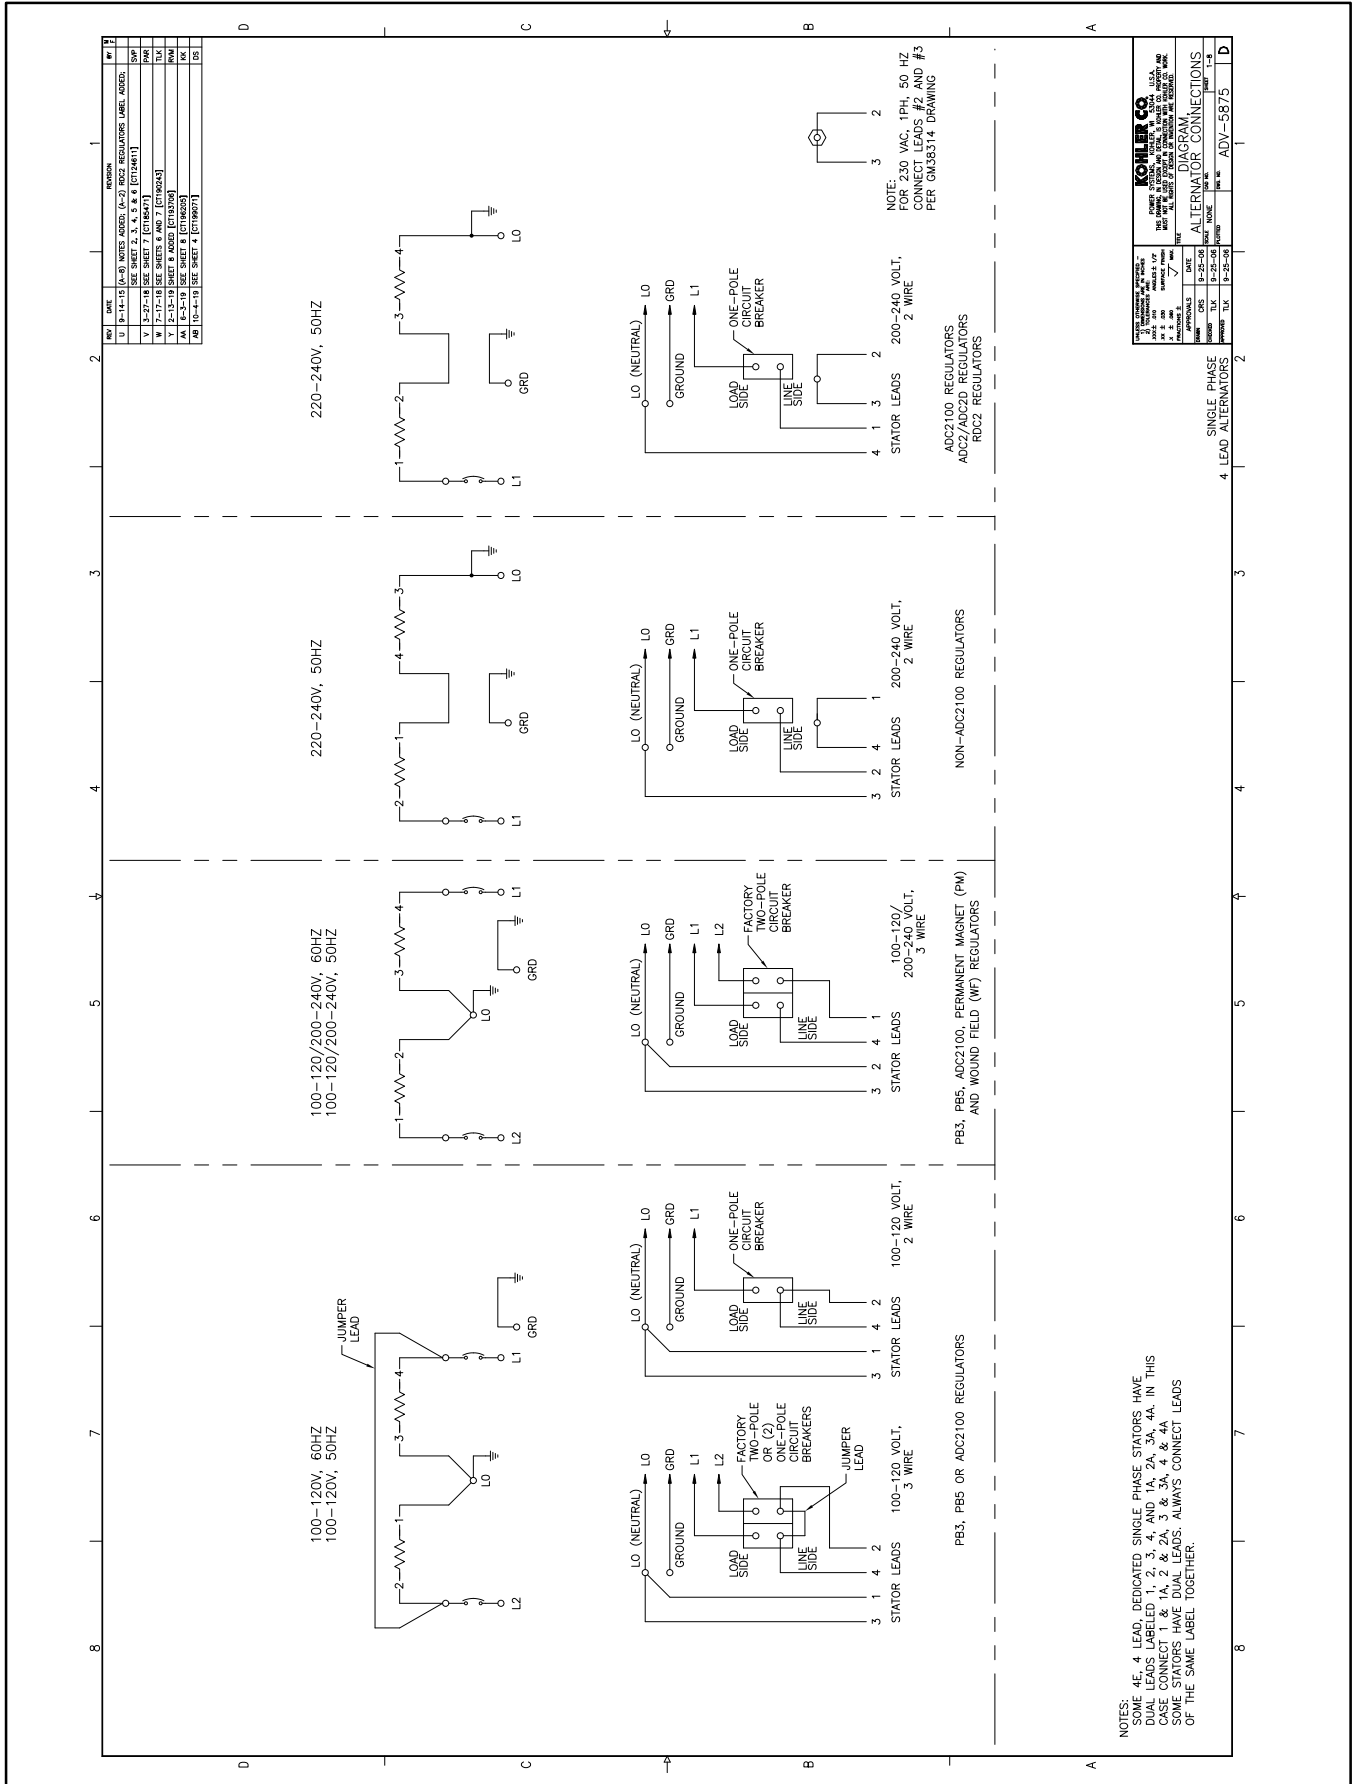
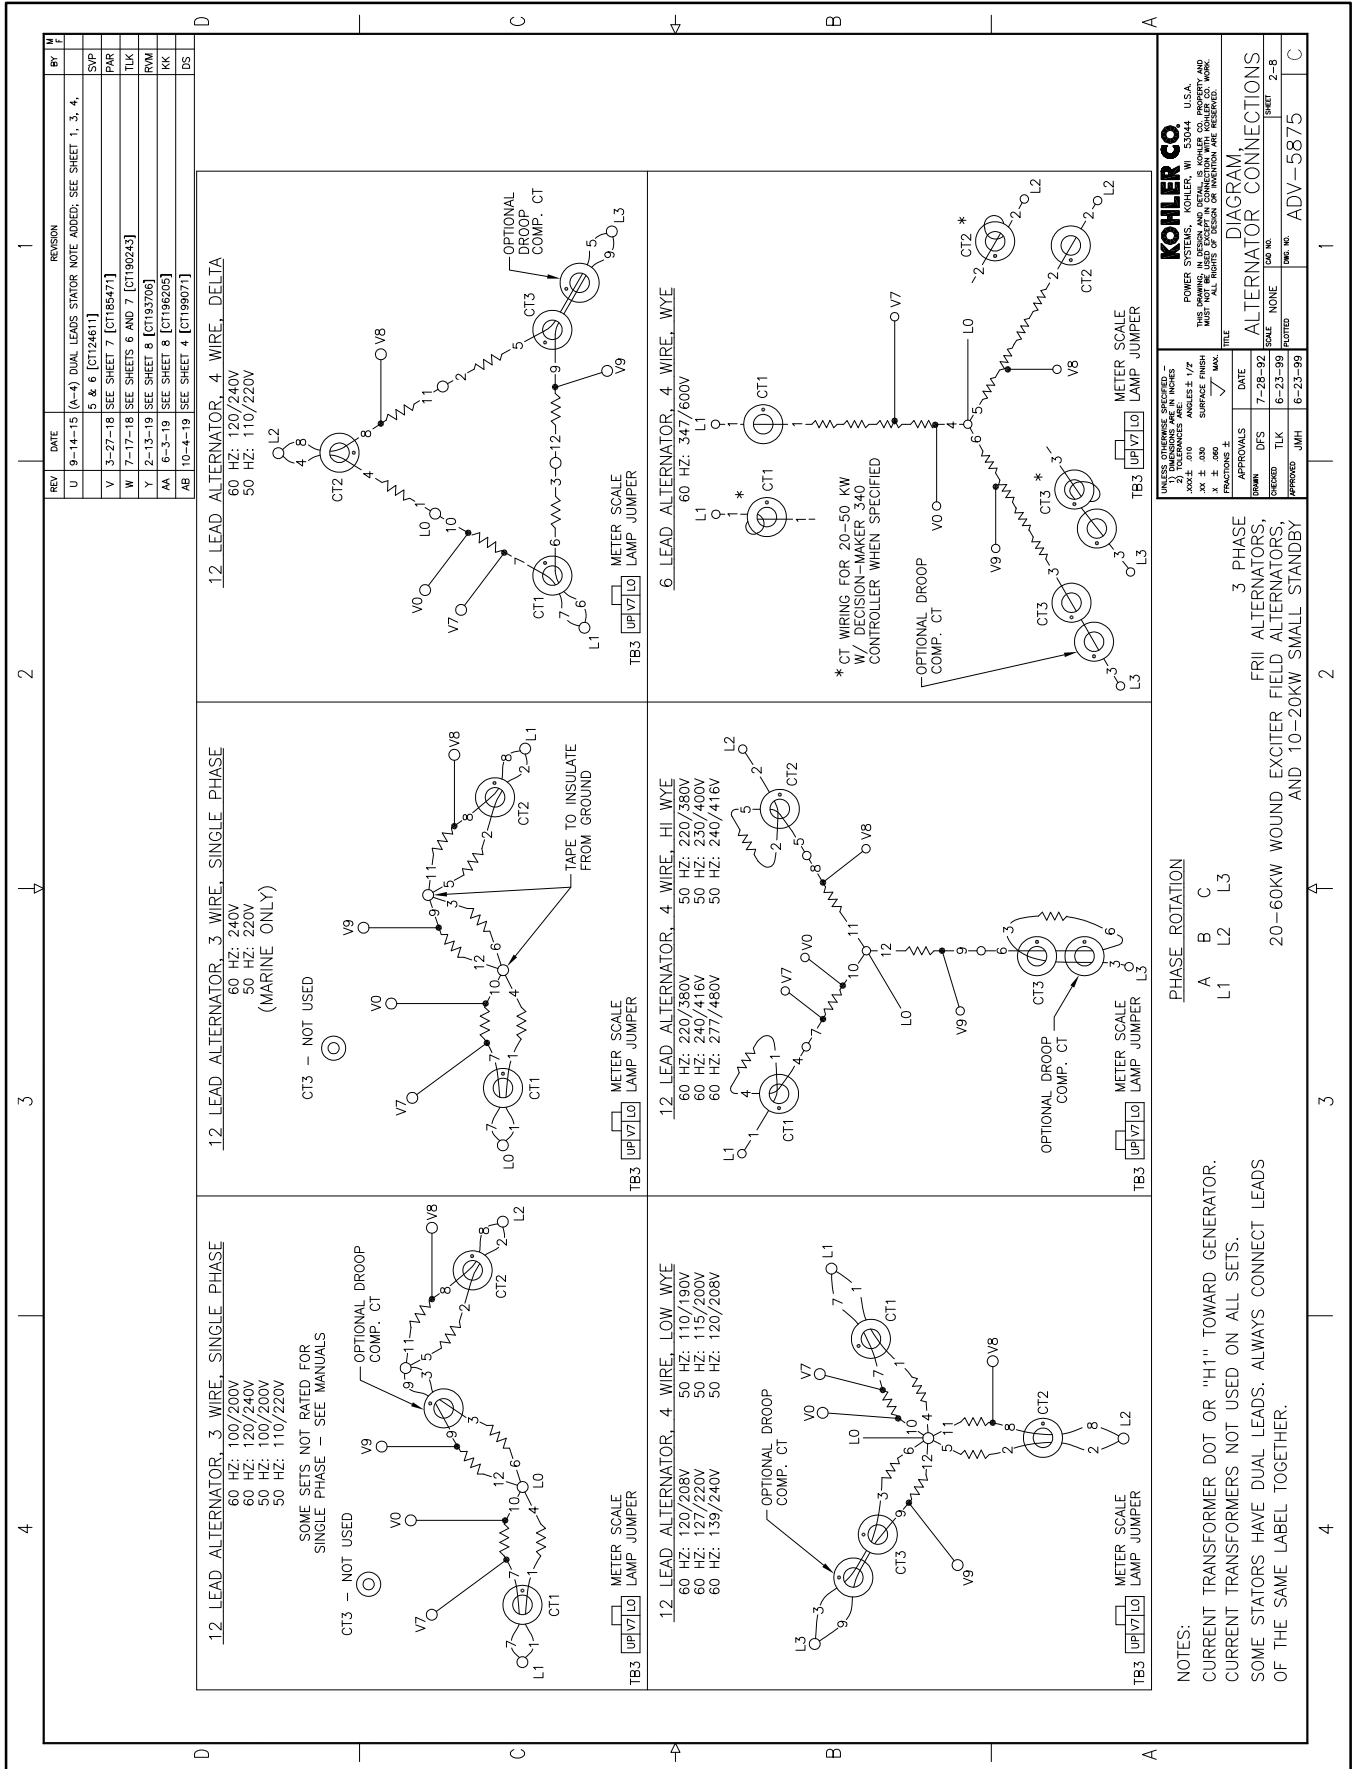

Figure 54 20- 150 kW Permanent Magnet Single-Phase Alternators, ADV-5875AB-1
Figure 55 20- 300 kW Permanent Magnet Alternators, ADV-5875AB-2
3. Use Figure 54, Figure 55, Figure 56, or Figure 57 to determine the generator set voltage configuration. Note the original voltage and reconnect as needed. Route leads through current transformers (CTs) and connect them according to the diagram for the desired phase and voltage.